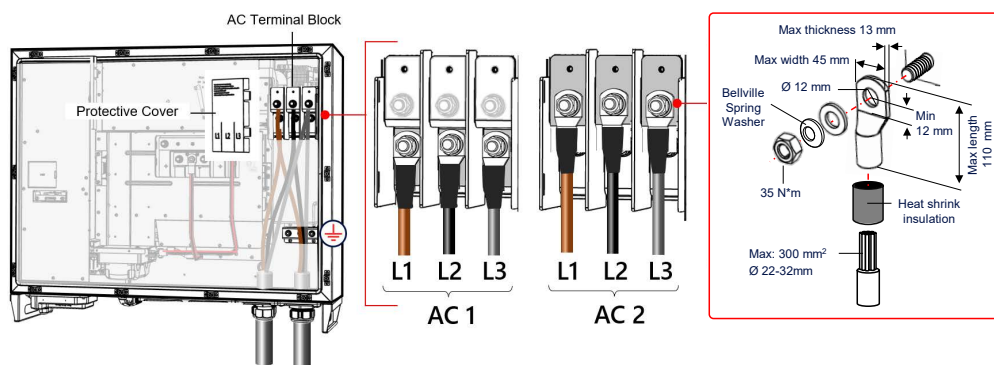

Figure 27: Connecting AC wires to the Inverter
10. Connect the L1, L2, L3 wires to the terminal block according to the labels on the terminals. Tighten the nuts to 35 N*m (see Figure 27).